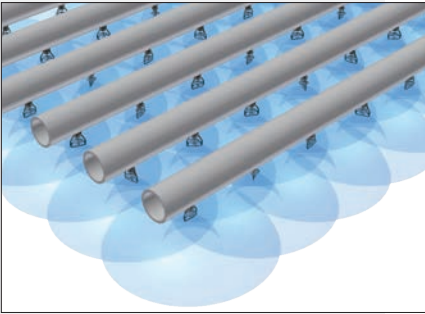

Figure 6. Nozzle Spray Pattern
- Check to see if the nozzles are all spraying consistently and producing the spray pattern shown in **Figure 6**.